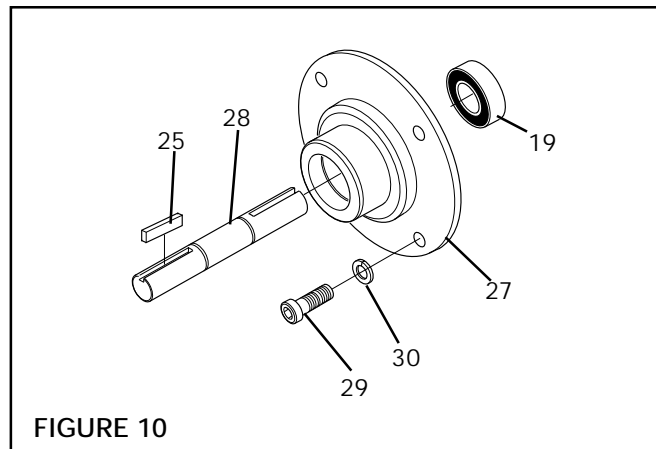

FIGURE 10
2. Fully supporting the Input Unit, press the Shaft (Item 28) and Ball Bearing (Item 19) out of the Input Unit (See Figure 10).
3. Press the Ball Bearing (Item 19) off the Shaft (Item 28) (See Figure 10).
5. Apply an adequate amount of Loctite[®] 680 to evenly coat the outer race of the new Ball Bearing (Item 19) (See Figure 10).
6. Carefully align the outer race of the new Ball Bearing (Item 19) with the bore of the Flange (Item 27) and press the Ball Bearing into the Flange until it is seated (Item 24) (See Figure 10).